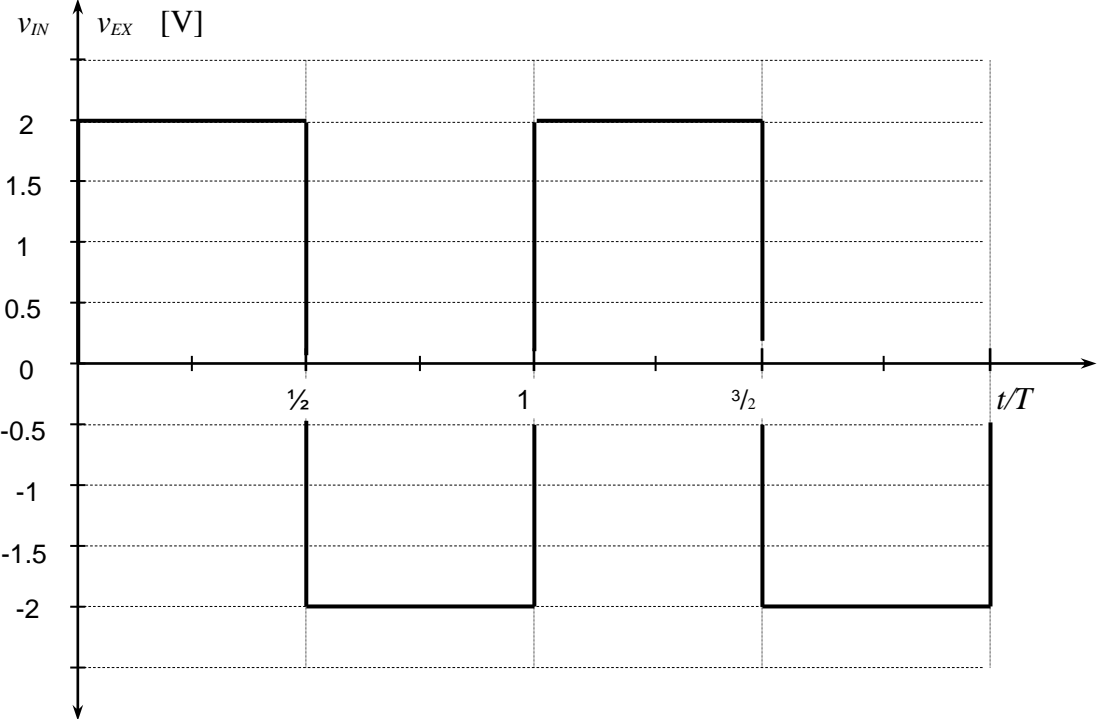

Fig. 9 Input voltage v_{IN} and output voltage v_{EX} waveforms of the OA integrator
3.2. Assuming that the input source is square wave signal, determine the curve of the output voltage Δv_{EX} in response to a square wave input $v_{IN} = \text{const} = \pm 2\text{V}$; (the output voltage Δv_{EX} cannot exceed the Fig. 9 limits $+2.5\text{V}$ and -2.5V);
Draw the integrator`s output voltage waveforms v_{EX} in Fig.9 and record the calculated end points for half-period and full period on this curve;